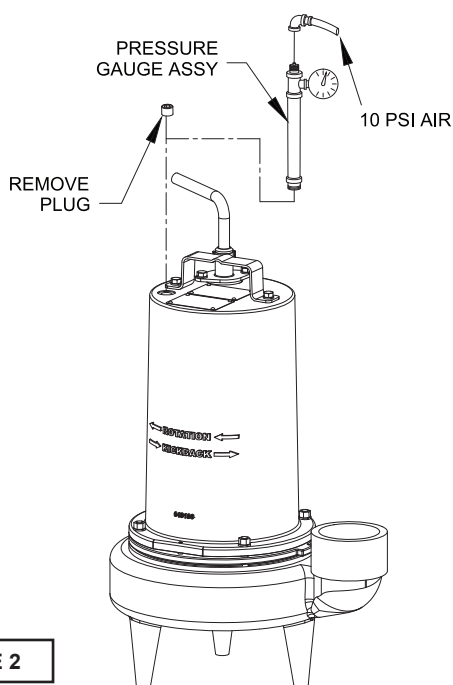

FIGURE 2
**Motor Housing** - Set unit upright and refill with new cooling oil as per Table 1 (see parts list for amount). Fill to just above motor as an air space must remain in the top of the motor housing (2) to compensate for oil expansion (see Figure 2 or 11). Apply pipe thread compound to threads of pipe plug (5) then assemble to motor housing (2).
**Pumps that have had the oil drained from the Motor Housing** - Apply pipe sealant to pressure gauge assembly and tighten into pipe plug hole (see Figure 2). Pressurize motor housing to 10 P.S.I. Use a soap solution around the sealed areas and inspect joints for "air bubbles". If, after five minutes, the pressure is still holding constant, and no "bubbles" are observed, slowly bleed the pressure and remove the gauge assembly. Replace the pipe plug using a sealant. If the pressure does not hold, then the leak must be located and repaired.
**Pumps that have had the oil drained from the Motor Housing** - The pressure test may be done with the oil at its normal level. Remove pipe plug (5) from motor housing (2). Apply pipe sealant to pressure gauge assembly and tighten into hole (see Figure 2). Pressurize motor housing to 10 P.S.I. and inspect joints for "air bubbles". For sealed areas below the oil level, leaks will seep oil. If, after five minutes, the pressure is still holding constant, and no "bubbles"/oil seepage is observed, slowly bleed the pressure and remove the gauge assembly. If the pressure does not hold, then the leak must be located and repaired.